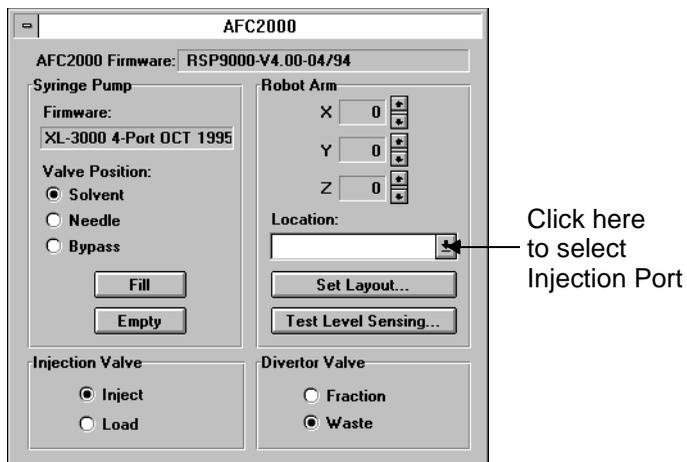

Figure 2-13 AFC 2000 Dialog Box
The AFC 2000 dialog box is displayed (Figure 2-13), and the AFC 2000 arm moves so that the sampling needle is in the home position (left, rear).
2. Click the **Set Layout** button in the AFC 2000 dialog box (see Figure 2-13).